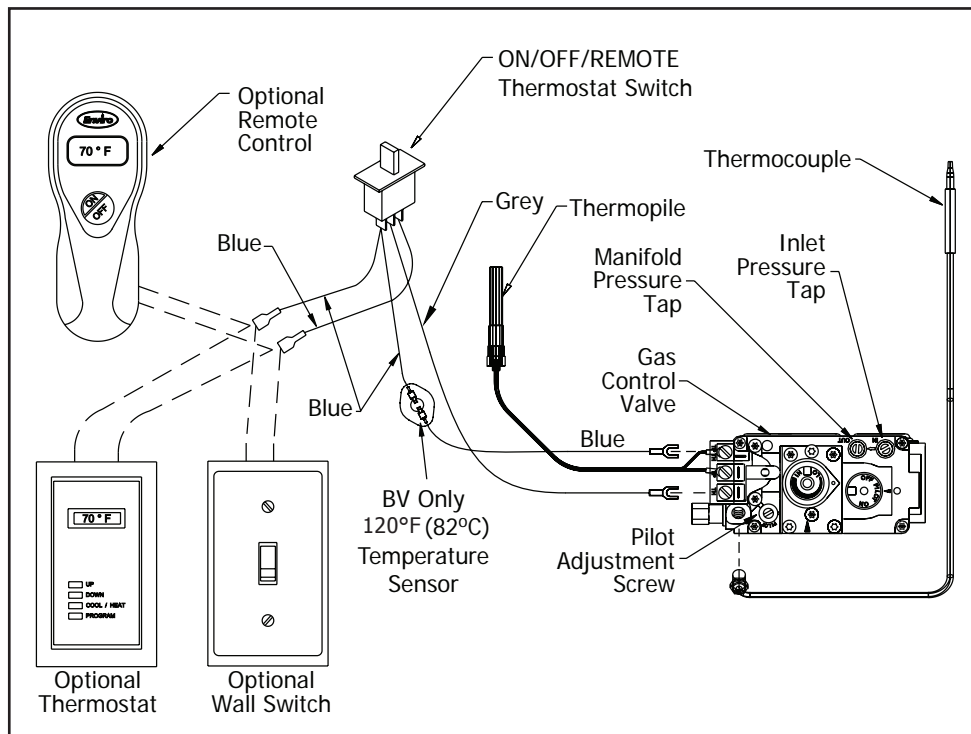

Figure 32: Accessory Wiring
The Q2 comes from the manufacture with a on/off switch mounted to the control panel. If you would like to install a wall mounted switch or thermostat then use the diagram to assist you in wiring the accessory into the unit. Disconnect the connection behind the switch in the control panel as tap into the (2) terminals as shown in figure 32